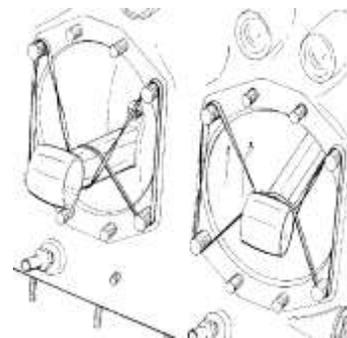

Figure 20
- (2) Make a loop around the cylinder base studs and connecting rod using a rubber band or the cylinder base oil seal ring (removed during cylinder removal) as shown in Figure 20.